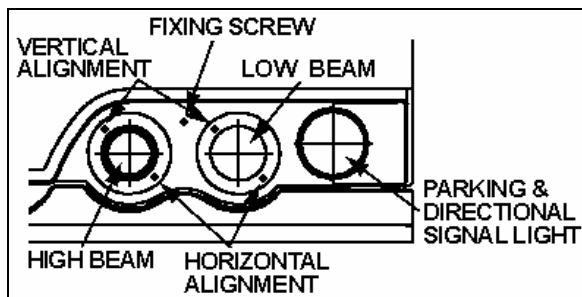

FIGURE 48: HEADLIGHT ASSEMBLY 06546
Headlight aim should be checked after installing a new bulb. Aiming can be performed without opening headlight assembly. Horizontal and vertical aiming of each module is provided by two adjusting screws that pivot the module in the housing for proper alignment (fig. 48). There is no adjustment for focus since the module is set for proper focus during manufacturing assembly.
- Make sure that headlight assembly fixing screw is properly fastened (Fig. 48).
If beam is offset, a **LOW CANDLES** message will appear. Using vertical and horizontal alignment screws, adjust beam as needed (fig. 48).